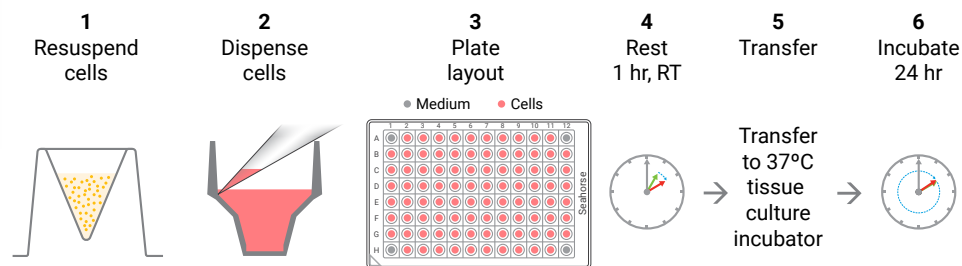

Figure 1. XF Tissue Culture Microplate Cell Seeding Procedure Workflow
2. Seed 80 μL of cell suspension per well (as shown in Figure 1); do not seed cells in background correction wells (A1, A12, H1, H12).